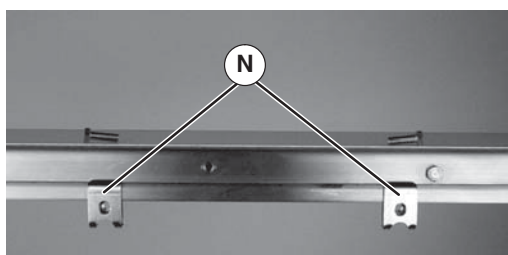

Figure 4
1. Install mounting clips (Figure 4, item N) on conveyor.